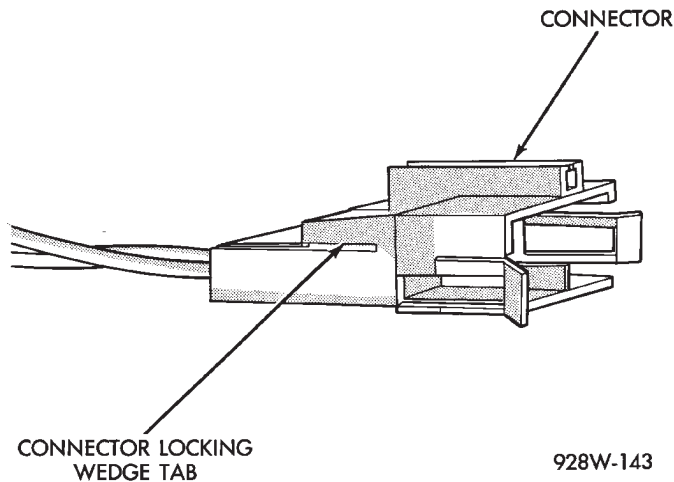

Fig. 14 Connector Locking Wedge Tab (Typical)
- (1) Disconnect battery.
- (2) Disconnect the connector that is to be repaired from its mating half/component.
- (3) Remove connector locking wedge, if required (Fig. 14).
(1) Disconnect battery.
(2) Disconnect the connector being repaired from its mating half.
(3) Remove connector locking wedge, if required (Fig. 14).